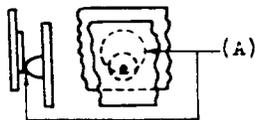

Fig. 3
- *2.06 Contact Alignment - Fig. 3 (A)** Contacts shall line up so that the point of contact falls wholly within the circumference of the opposing contact disc. Gauge by eye.